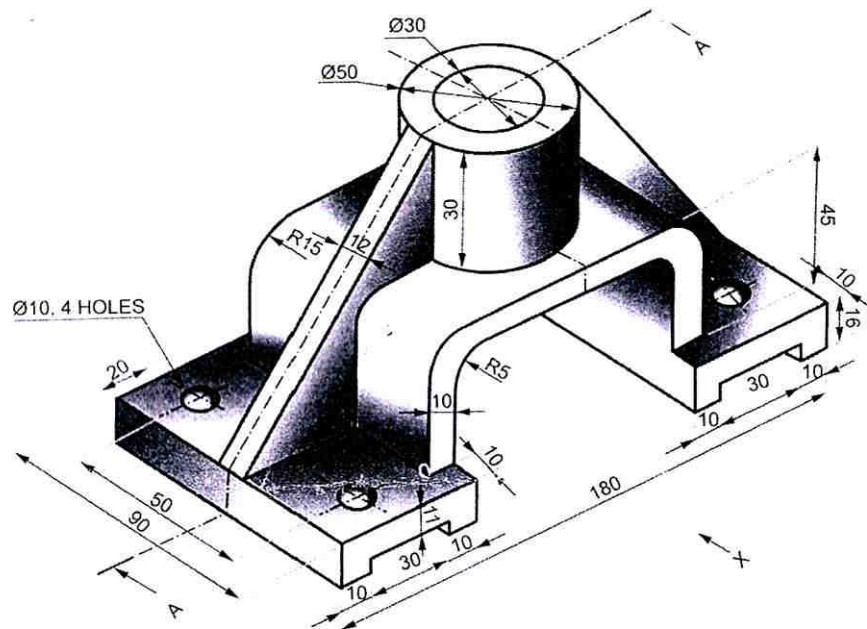

Fig No. 2 C.I. Bracket
6. The following Fig. No. 2 shows a cast iron bracket. By using first angle projection method draw : [13]